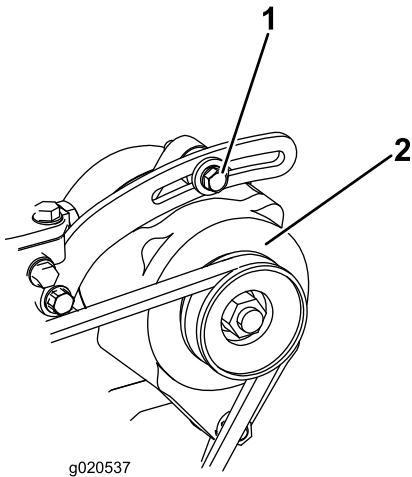

Figure 78
1. Loosen the alternator mounting bolts (Figure 78).